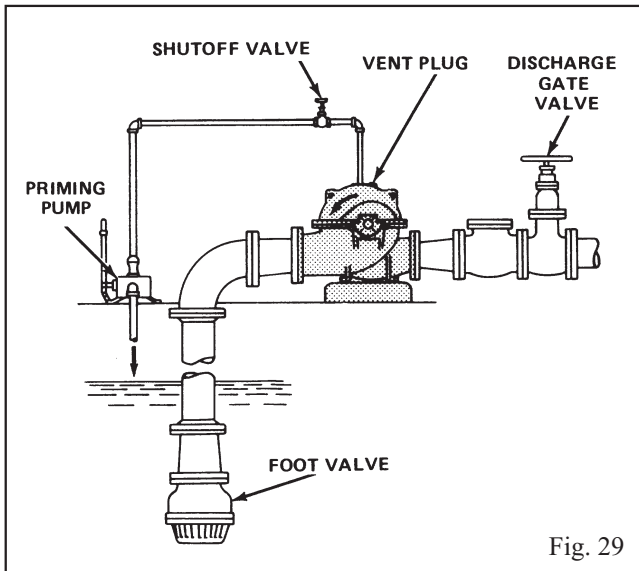

Fig. 29
2. Priming By Separate Hand, or Manually Controlled, Priming Pump (Fig. 29).